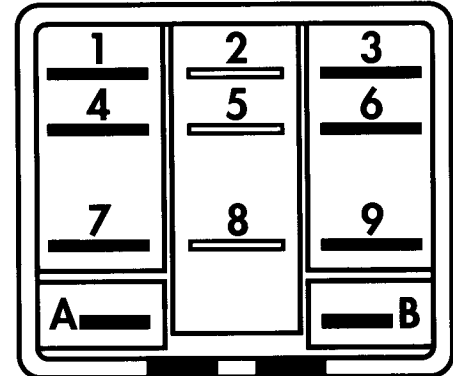

Figure 44
3. Remove one slip-on terminal from the old power relay. Connect that terminal to the same post position on the new relay. Continue in this manner until all terminals are reconnected to the new relay (see Figure 44).